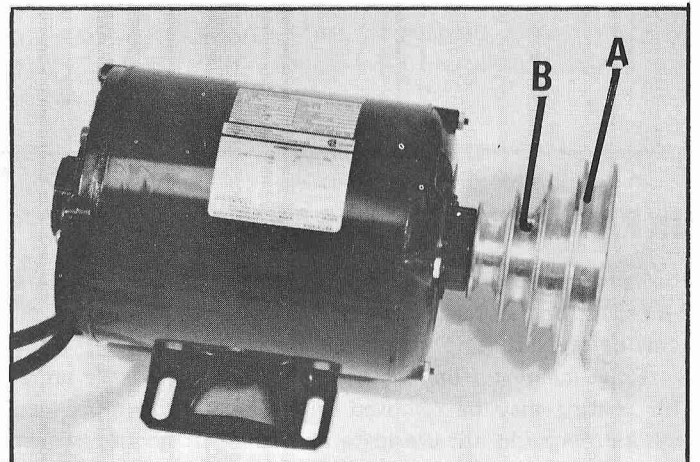

Fig. 6
Assemble motor pulley (A) to motor shaft with smallest groove of motor pulley toward the motor, as shown in Fig. 6. Tighten set screw (B) against key in motor shaft.